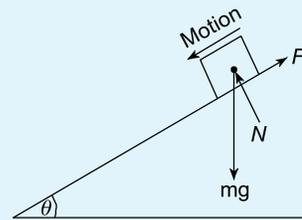

Figure 16.14
3. An experiment is required to obtain the static value of μ ; this is achieved by increasing the value of θ until the mass just moves down the plane, as shown in Figure 16.14. If the experimentally obtained value for θ was 22.5° , what is the value of μ ? [$\mu = 0.414$]